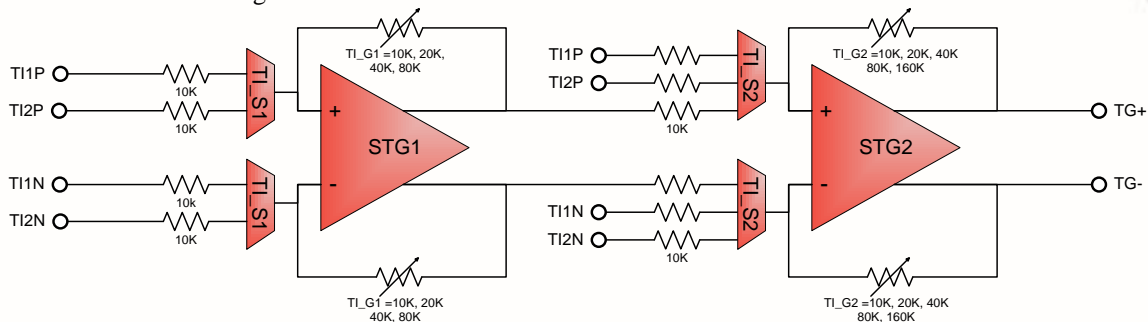

Figure 3-26 Two stage amplifier
- The PSTN line input contains two stage amplifier with independently settable gains and multiplexed input as described in figure 3-26.